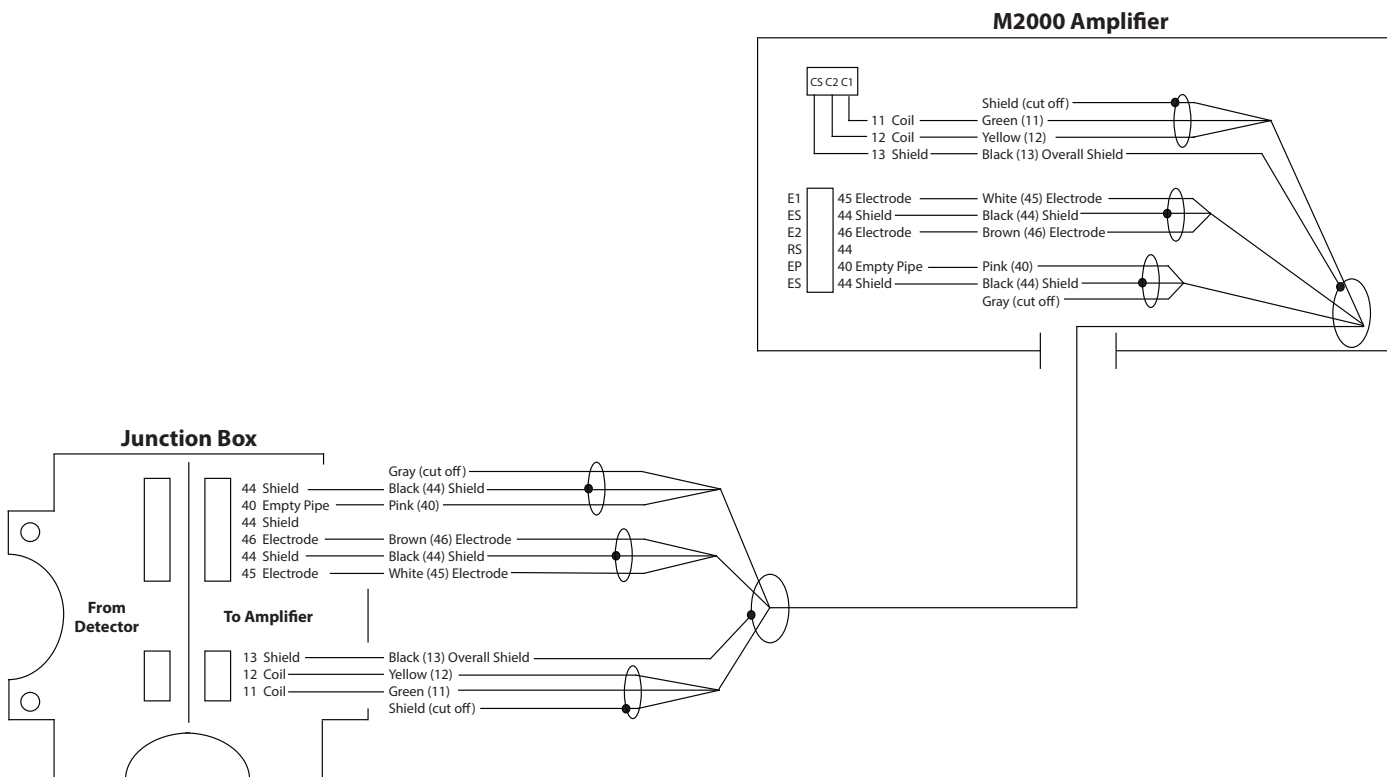

Figure 20: Wiring for remote configuration
3. Connection as shown in Figure 20 on page 20.
1. Remove the junction box lid. Carefully remove the wires connected to the terminal blocks that run to the M2000 transmitter. See Figure 20 on page 20 for a reference of wire color to terminal connection.